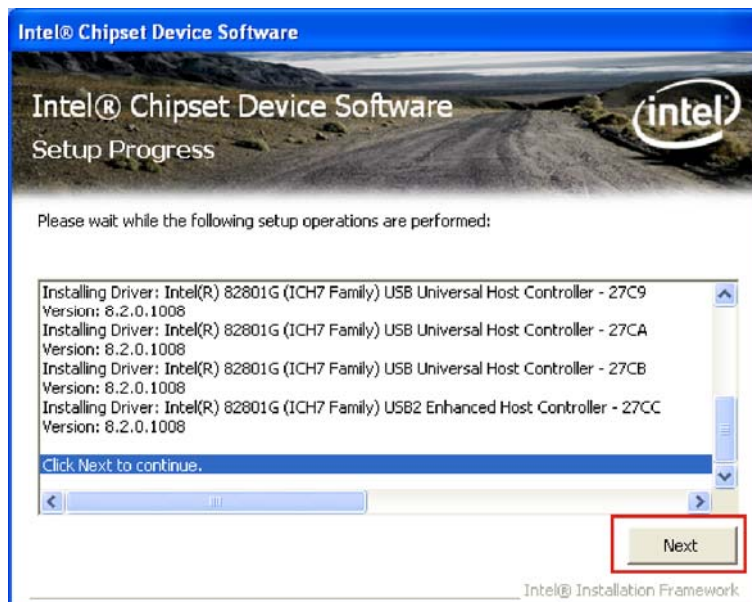

Figure 7-7: Chipset Driver Setup Operations
Step 16: **Setup Operations** are performed as shown in Figure 7-7.